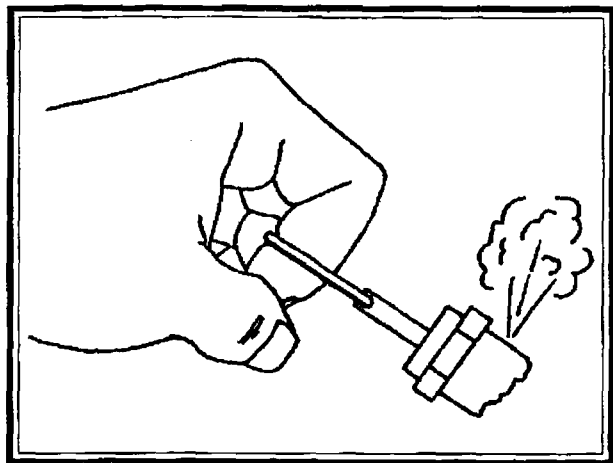

Fig. 3-10 Checking Pressure Relief Valves & Relieving System Pressure Pix1160
Step 2) Tanks subjected to freezing temperatures may contain ice. Store the compressor in a heated area before attempting to drain moisture from the tanks. Reduce the air pressure in the tank to 30 PSIG by pulling the pressure relief valve ring (refer to **Fig. 3-10, Checking Pressure Relief Valves & Relieving System Pressure**).